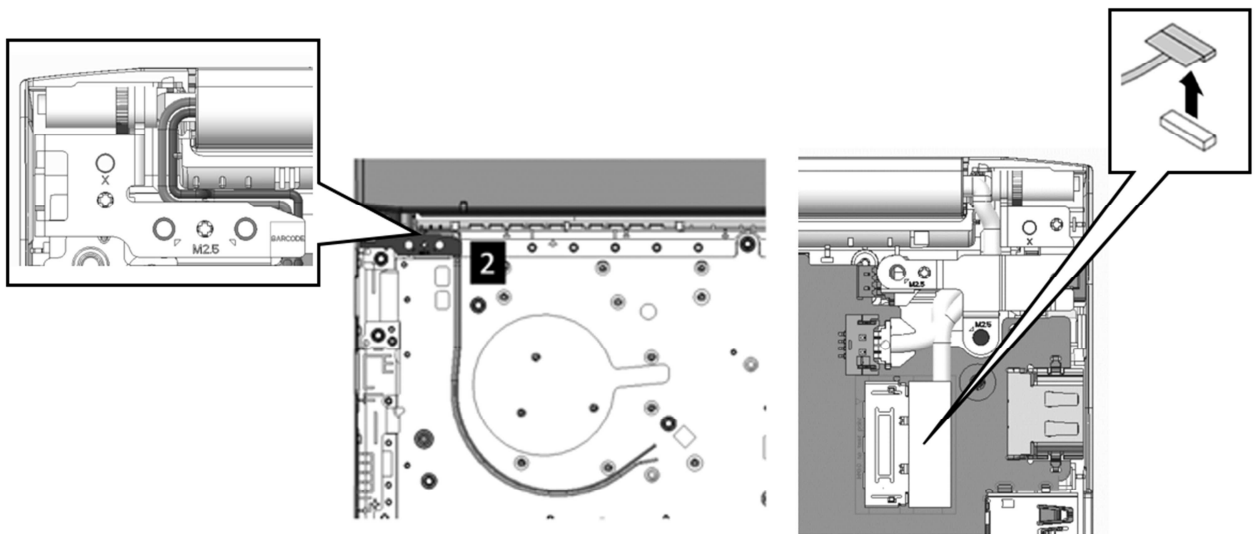
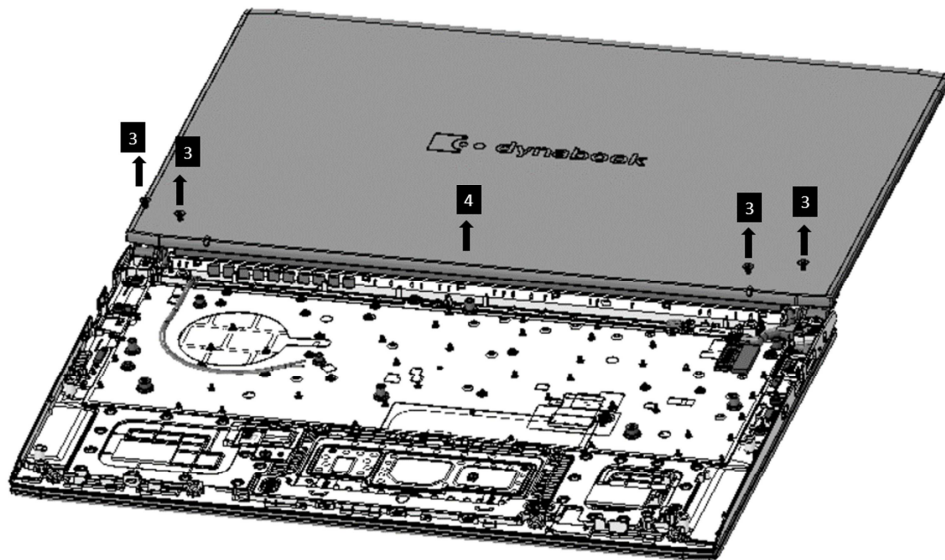

Figure 4-17 W-LAN /edp Cables Routing Channel
Figure 4-18 Removing the LCD Assembly
Remove the LCD assembly according to the following procedures and Figure 4-17 and Figure 4-18.
1. Pull the W-LAN cables and edp cable out of the routing channels as shown in Figure 4-17.
2. Remove the four M2.5x5 screws  ,3 securing the LCD assembly as shown in Figure 4-18.
3. Make sure all cables are moved away from the logic upper assembly to avoid damaging the system when removing the LCD assembly. Lift away the LCD assembly from the logic upper assembly as the arrow  ,4 indicates in Figure 4-18.
3. Tighten the four M2.5x5 screws to secure the LCD assembly to the logic upper assembly as shown in Figure 4-18.  ,3
4. Route and secure the W-LAN cables and edp cable in the routing channels on the logic upper assembly as shown in Figure 4-17.  ,2  ,1